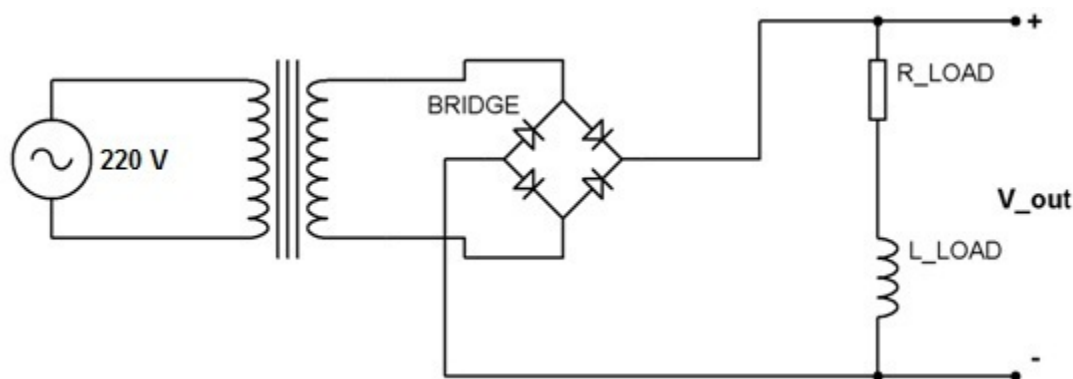

Figure 3. Full-wave rectifier
1. Arrange the circuit as shown in Figure 3.